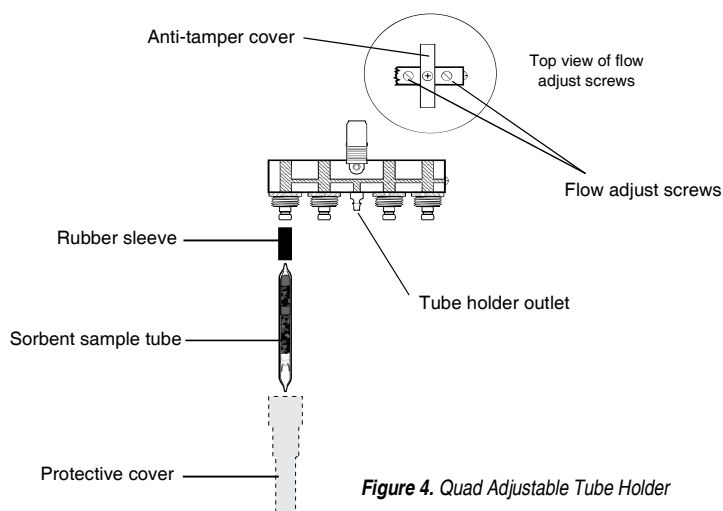

Figure 4. Quad Adjustable Tube Holder
Using Multiple-tube Adjustable Tube Holder (Figure 4)
4. Connect the adjustable tube holder (Figure 4) to the pump inlet (Figure 1) using the attached 1/4-inch Tygon tubing. See right.
5. Insert an opened sorbent tube into each rubber sleeve of the tube holder (Figure 4). Ensure that the arrow on each tube points toward the tube holder.
7. Using flexible tubing, connect the exposed end of the first sorbent tube to the calibrator outlet (suction port). Loosen and turn the brass flow adjust screw (*Figure 4*) on the port of the appropriate tube holder (**counterclockwise to increase, clockwise to decrease**) until the desired flow rate is achieved. **Note:** For tri and quad models, first rotate each anti-tamper cover (*Figures 4 and 5*) to expose the flow adjust screws, then adjust the appropriate one until the calibrator indicates the desired flow.